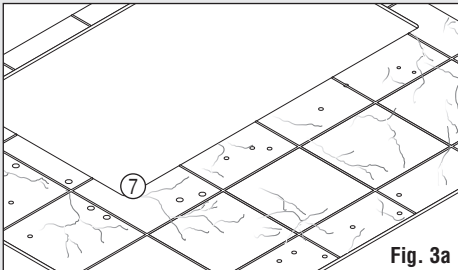

Fig. 3a
- Using a fine-tip paintbrush, paint cracks onto Base ⑦ and let dry thoroughly (**Fig. 3a**).